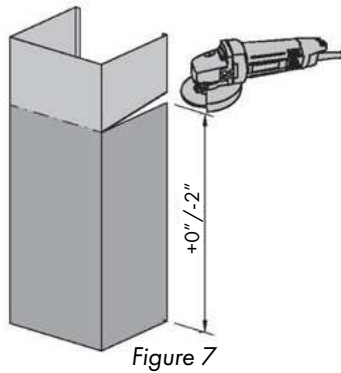

Figure 7
- Find the center of the wall where you are installing the hood. Make sure there is sufficient bracing to hold the weight of the hood. Mark your center line and measure out from the center to find your two mounting points. Make sure your mounting points are level when you mark them. It is recommended to install the hood directly into wood supports. *Figure 7*